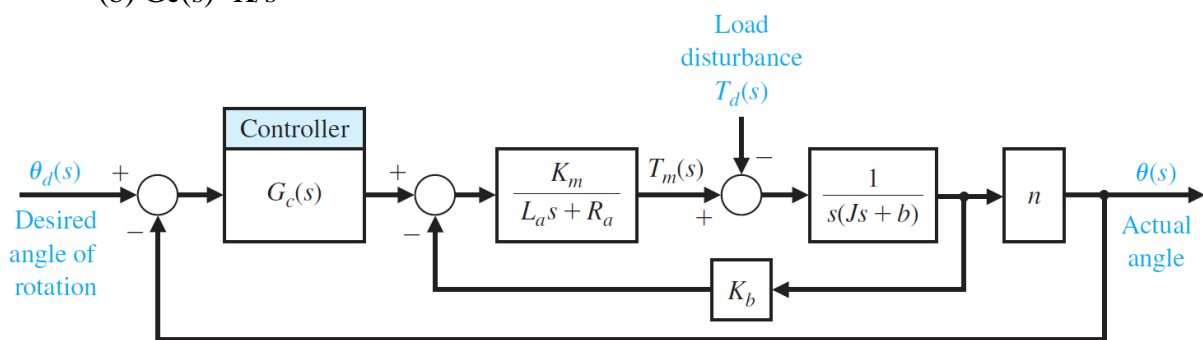

Figure 1. Robot Joint Control
5. Plot output for Figure 1 and 2 where all inputs are step functions (use Matlab or Scilab). Select unknown parameters randomly (if any).